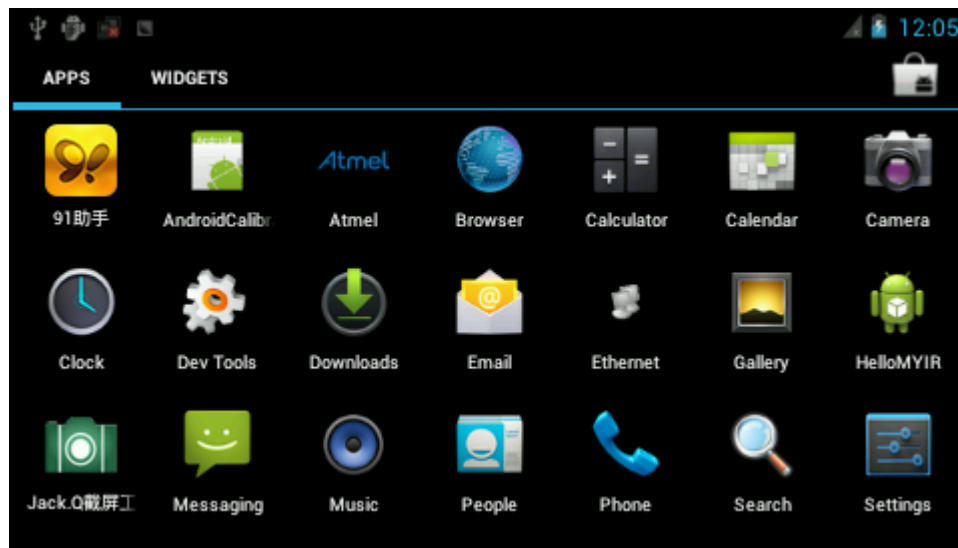

Figure 4-18
(1) Enter interface and Select "Music" icon, Refer to figure 4-18: